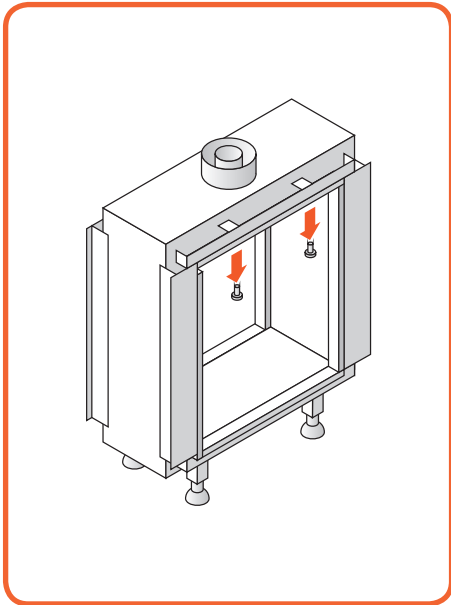
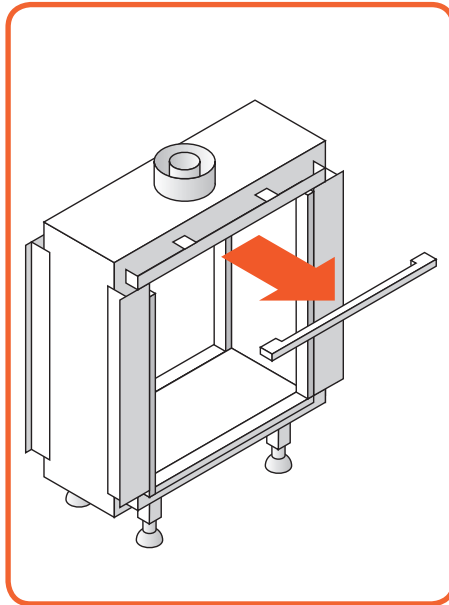

Figure 10.2 - Remove top trim screws
Figure 10.3 - Remove top trim
- Remove the top trim by taking out the screws (*Figure 10.2*) and gently take out the top trim (*Figure 10.3*)